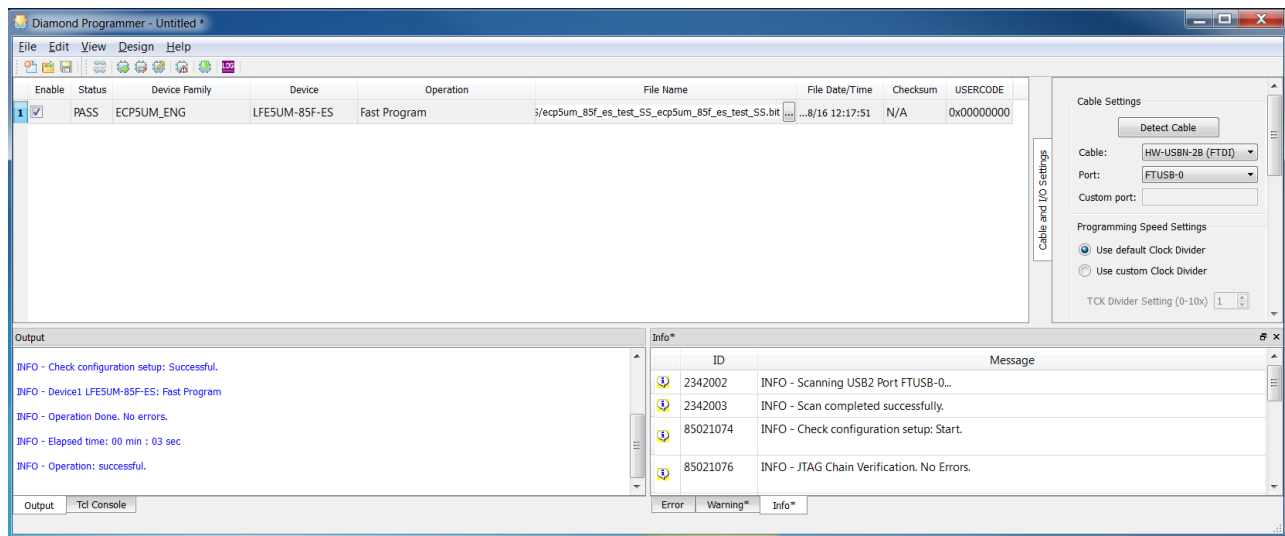

Figure 6.11. Successful Programming
8. When the programming of the device is completed, the **Status** option changes to **PASS** and **Operation: successful** message appears in the **Output** console as shown in Figure 6.11.